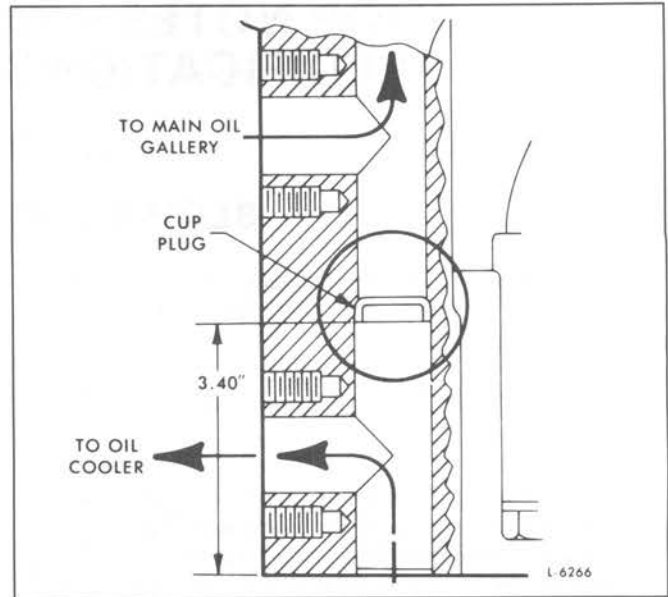

Fig. 3 - Location of Cup Plug in Oil Gallery
If the oil cooler side of the block is drilled for the turbo oil supply, pay special attention to the area around the 1" cup plug that divides the vertical oil gallery between the oil cooler inlet and outlet passages (Fig. 3). Remove the cup plug and flush the oil gallery with the air hose and a cleaning solvent in combination to ensure the removal of all metal chips.
- After cleaning the block thoroughly, apply Loctite J 26558-92 pipe sealant with Teflon (or equivalent) to the oil gallery plug and the cup plug and reinstall. Torque the oil gallery plug to 78-85 lb-ft (105-115 Nm). Install the cup plug to a depth of 3.40" with tool J 33420 (Fig. 3).